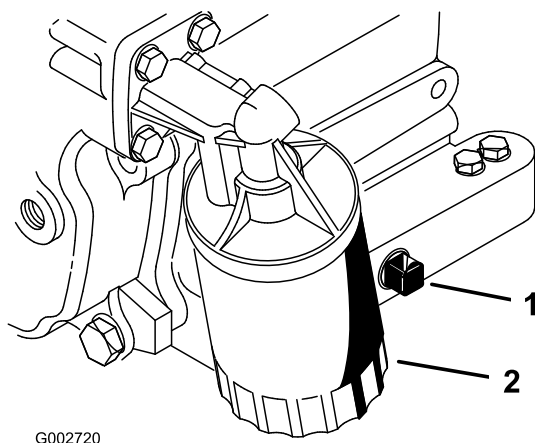

Figure 16
2. Remove the drain plug (Figure 16) and let oil flow into a drain pan. When the oil stops, install the drain plug.
3. Remove the oil filter (Figure 16). Apply a light coat of clean oil to the new filter gasket.